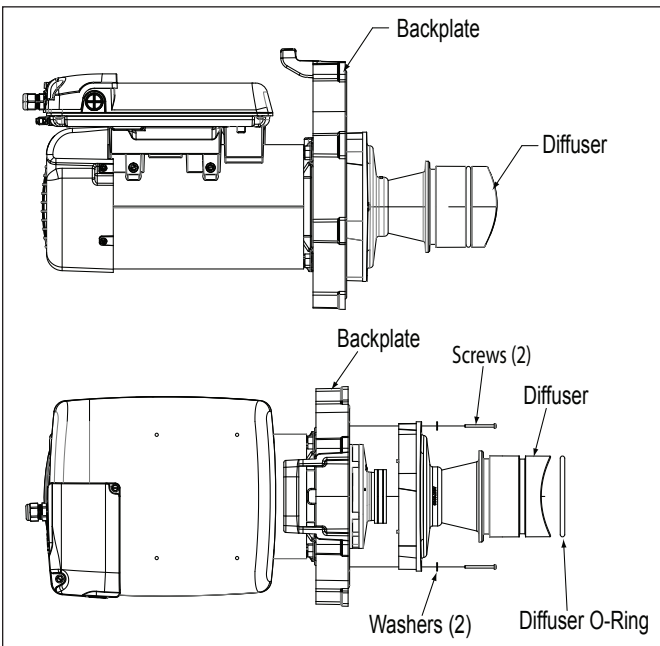

Figure 12. Remove the Diffuser, Regal Beloit Motor
5. Using a No. 1 Phillips screwdriver, remove the two (2) screws holding the diffuser. (The diffuser is the cover over the impeller.) Then remove the diffuser. See Figure 12.